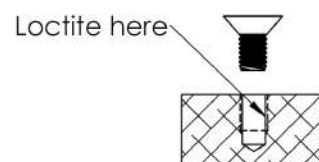

Fig.2 Blind Hole
- For blind holes, apply threadlocker on thread hole (fig 2).